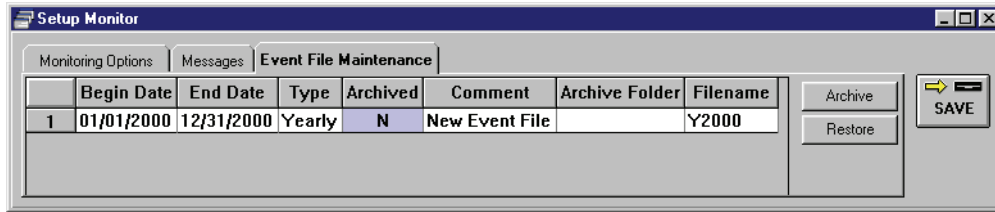

Figure 5-14: Event File Maintenance Window
5. An event file is automatically created. Click on the **Event File Maintenance** tab to see the created file (see Figure 5-14 on page 27 of this section).